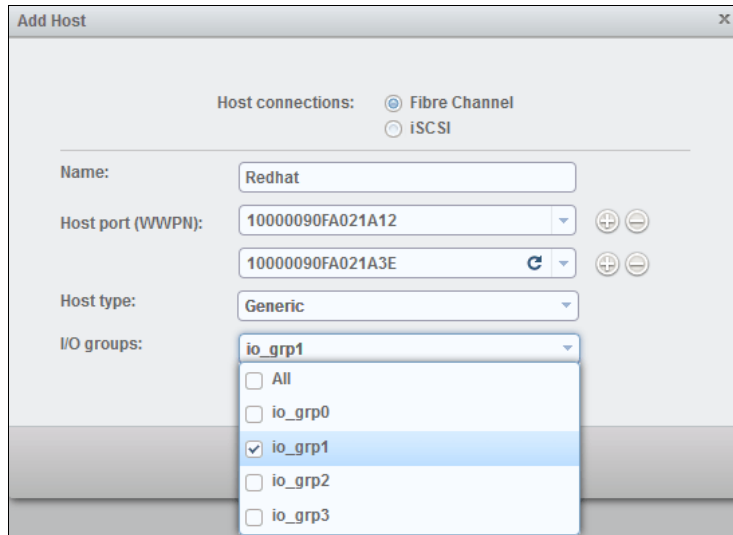

Figure 5-57 Add RedHat host to only I/O group 1
- To add a Redhat host, restart the wizard and add the Redhat information. Figure 5-57 shows adding a host only for I/O group 1. Click **Add** to create the Redhat host.